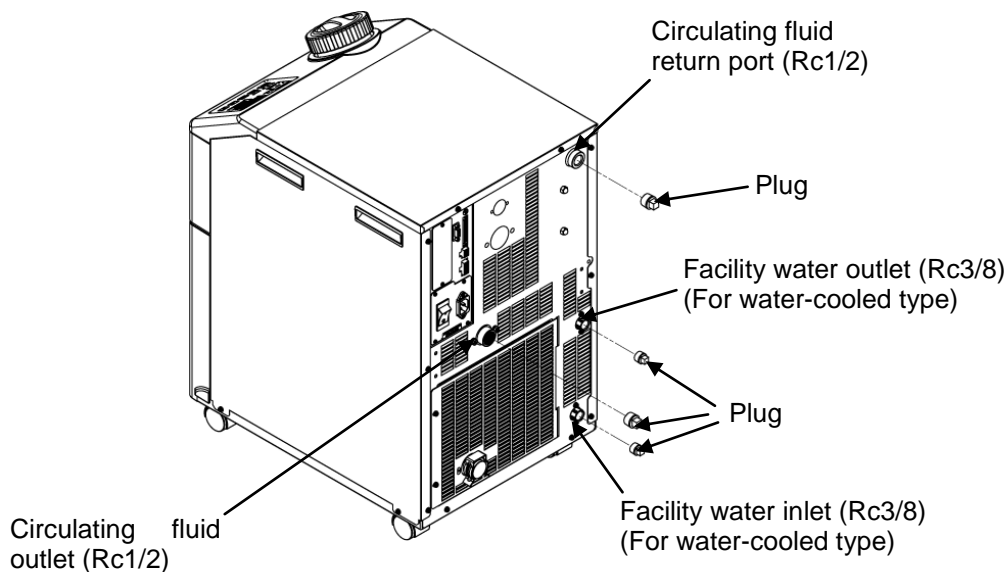

Fig. 8-6 Plug to the piping of the product
9. Refer to Fig. 8-6 to mount the plug to the piping of the product.